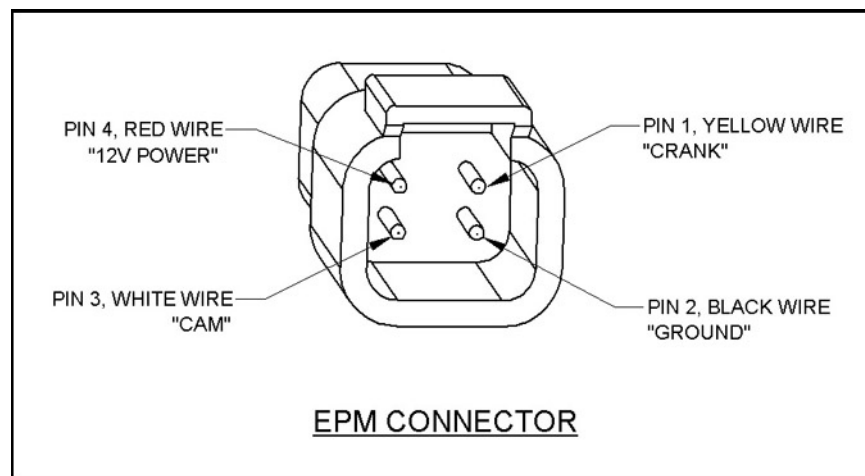

Figure 1.
- a) The EPM has a short cable with a 4 pin connector, supplied with the EPM is the mating connector housing with 5 crimp terminals. The connector pinouts are shown in figure 1.